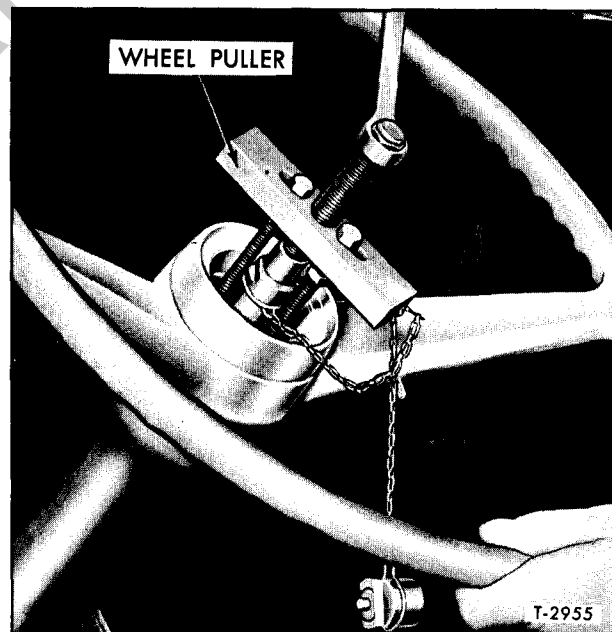

Figure 12—Steering Wheel Removal (Typical)
4. Using puller (J-2927-01), remove steering wheel (fig. 12). It may be necessary to tap on bolt head of tool with a hammer as it is turned down to loosen a tight steering wheel.
6. Remove steering wheel using puller (J-2927-01) as illustrated in figure 12. It may be necessary to lightly tap on bolt head of tool with a hammer as the bolt is turned down.